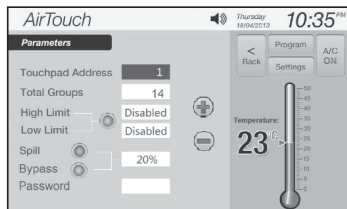

Figure 8.
- Touch the edit field of 'Touchpad Address' to highlight it,  and  buttons will appear (Figure 8).